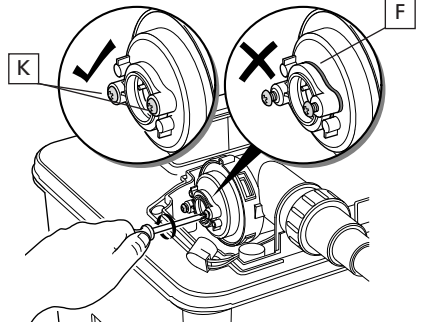
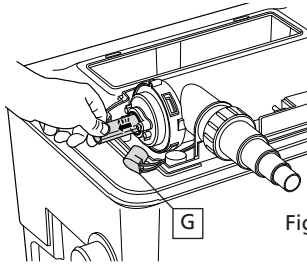

Fig 9
Fig 10
2.2 Pull off the lamp terminals (see 'G' Fig 10) from both ends, and slide the 'old'
8.2 Remove the UV lamp as described in 2.2. Slacken the two quartz clamp screws (see 'K' Fig 9) at both ends to release the quartz tube. Slide the quartz tube out of the UVC unit (See Fig 10). Wipe quartz tube with a soft cloth moistened with a gentle cleaning agent (e.g. vinegar)